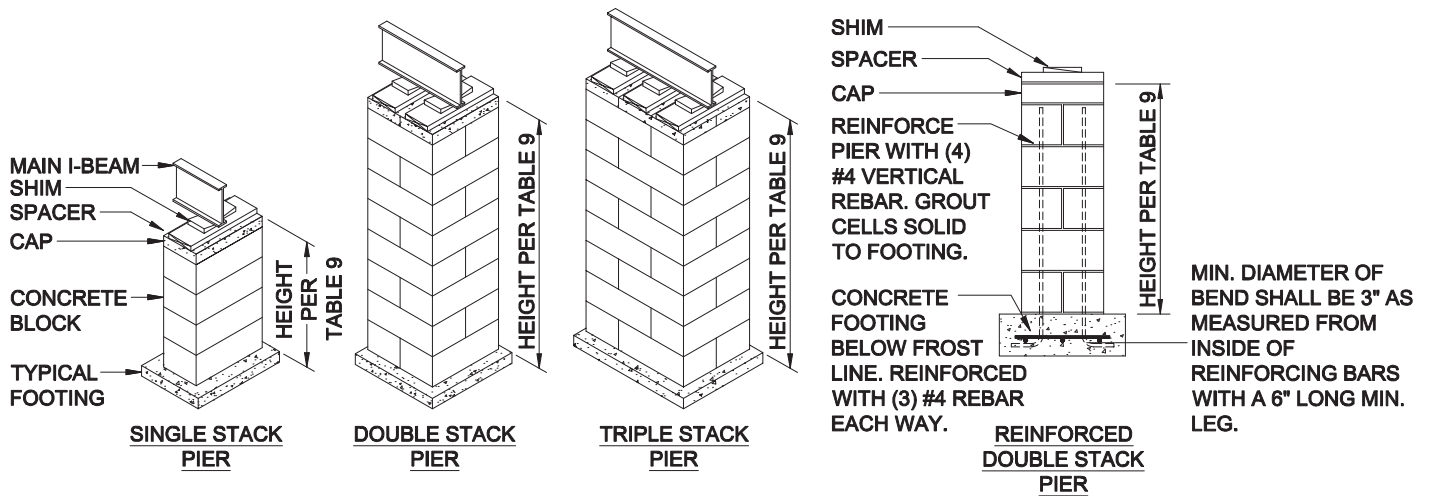

Figure 16. Frame pier construction.
- 2. Stack blocks.** Stack concrete blocks with their hollow cells aligned vertically. When piers are constructed of blocks stacked side-by-side, orient each layer at right angles to the previous one (**Figure 16**) and plan blocks so that split caps will be perpendicular to the blocks they rest on and perpendicular to the main I-beam.